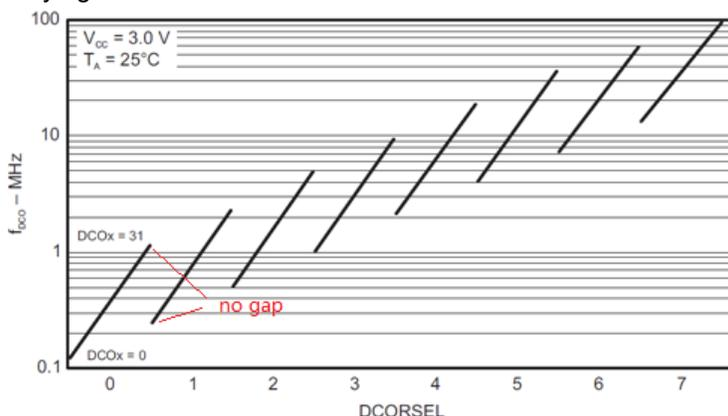

Figure 1-3. Typical DCO Frequency for MSP430F5529
- For MSP430F5xx DCO, there is no frequency coverage gap across DCO taps for adjacent DCORSEL values. Figure 1-3 shows the Typical DCO Frequency for MSP430F5529. It is observed that the frequency of DCO_x = 31 is always greater than DCO_x = 0 of next DCORSEL.